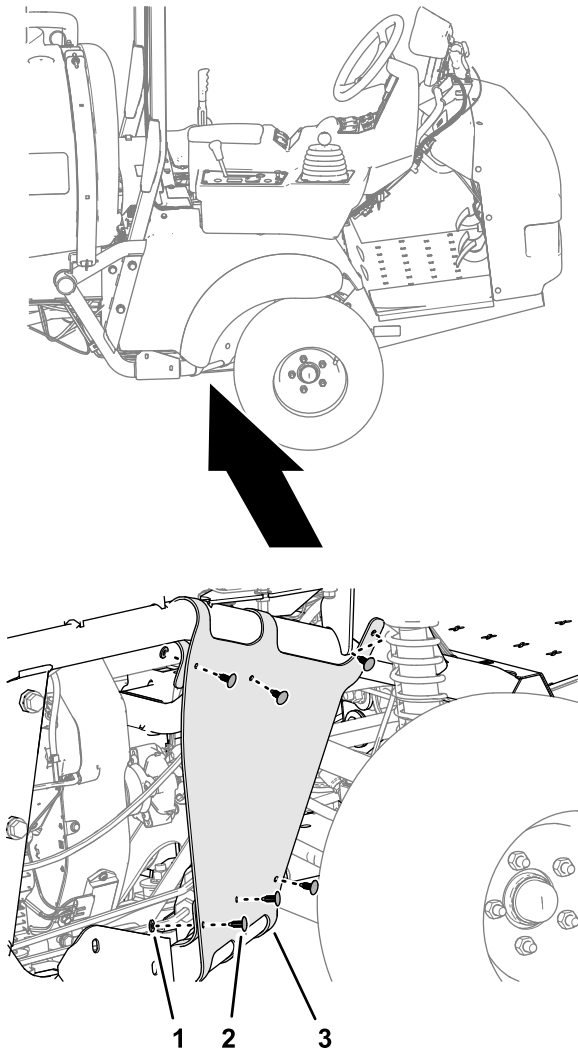

Figure 99
1. Align the inner-fender shroud to the right, upper and right, lower-frame tubes (Figure 99).
2. Secure the inner-fender shroud to the frame tubes (Figure 99) with the 6 push-in fasteners and 5 washers (9/16 x 1/2 inch).